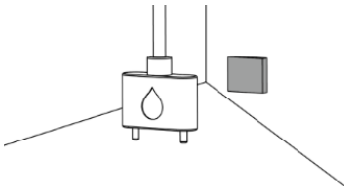

Figure 8
4. In order for the sensor to work, BOTH probes must have contact with water. Make sure both probe tips are positioned correctly. Use the included adhesive pad to secure the probe housing to a clean, dry surface. (Figure 8)